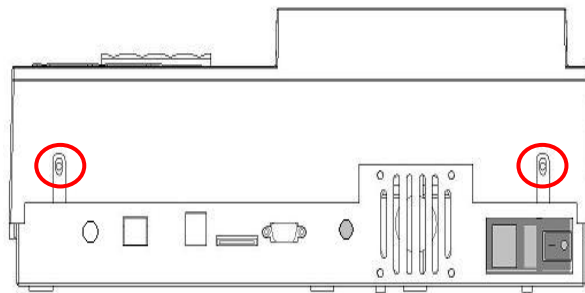

Figure 4-2
4. Remove two screws on the back of the analyzer as shown in Figure 4-2, and lightly raise the upper cover.